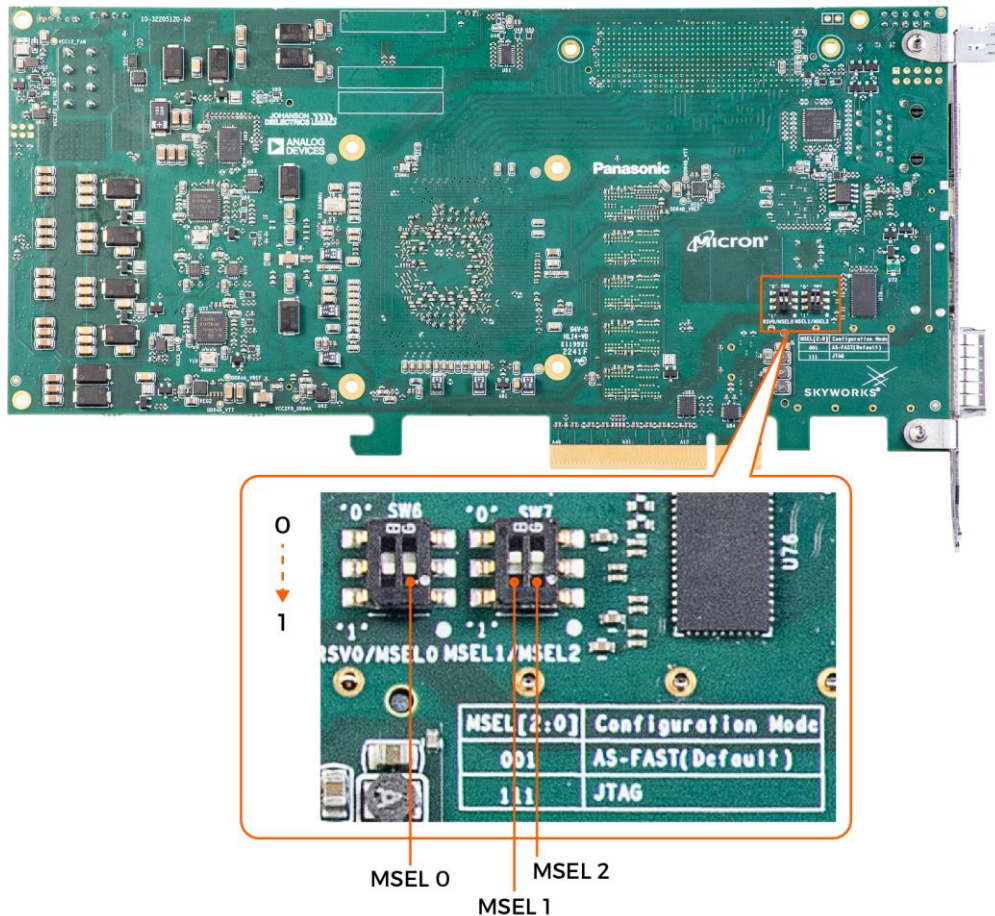

Figure 2-3 The MSEL pin setting
As shown in **Figure 2-3**, the mode select pin of the FPGA on the Agilex 7 FPGA Starter Kit has been set to **Active Serial (AS) Fast mode** using switches. Thus, the Agilex 7 FPGA Starter Kit supports the following configuration modes: